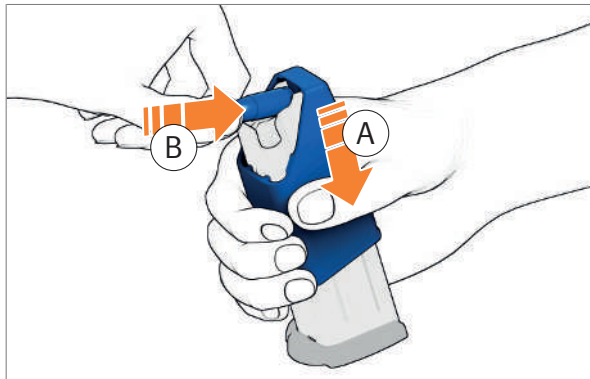

Fig. 51: Pushing cartridge under the magazine lips
2. Press loading aid downwards and hold it (Fig. 51).
3. Push cartridge base forwards under the magazine lips (Fig. 51).